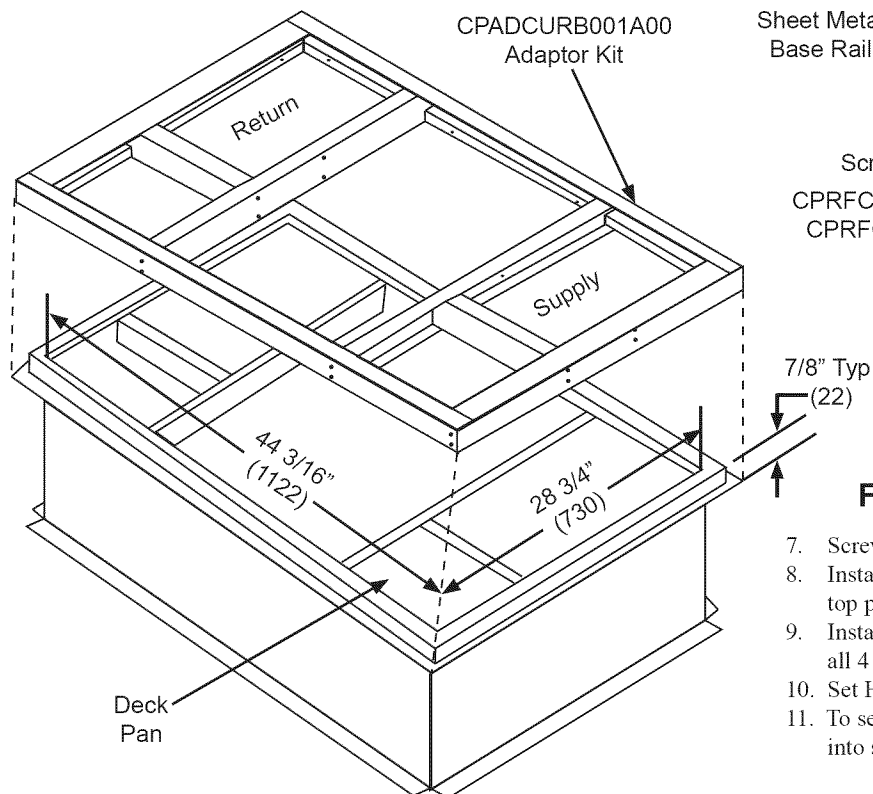

Fig. 4 - Adaptor on Existing Curb
1. Install the CPRFCURB006A00 or CPRFCURB007A00 curb per instructions provided with curb. If this is a retrofit applications, make sure the existing CPRFCURB006A00 or CPRFCURB007A00 dimensions match those in Fig. 4. If they don't match, then existing curb is not as expected and adaptor kit may not fit as designed.